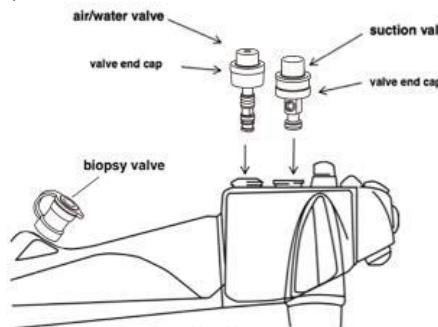

Figure 1
- Insert the suction valve into suction cylinder of a Pentax® endoscope (see Figure 1 below).
10. Insert the air/water valve into the air/water cylinder of a Pentax® endoscope (see Figure 1 below).
14. Securely place the biopsy valve onto the biopsy/suction channel opening of a Pentax® endoscope (See Figure 1).